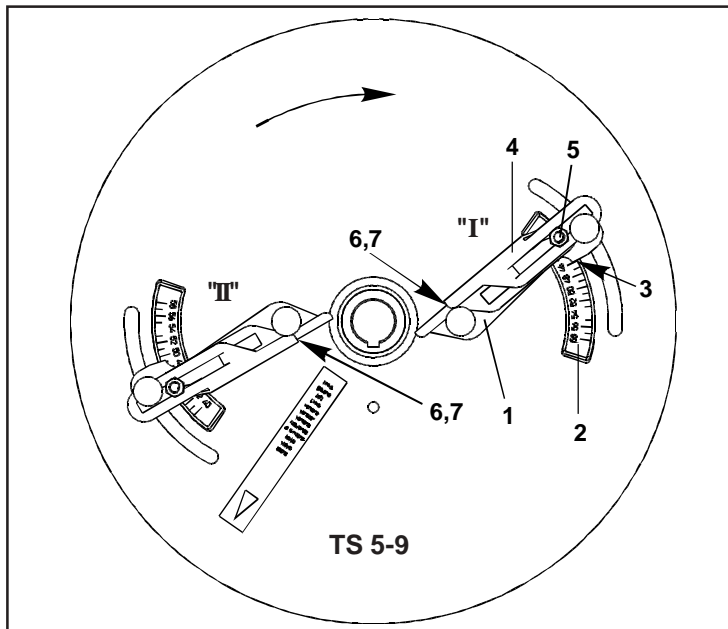

Fig. 7.23
- Set reading line (Fig. 7.23/7) of vane "I" to letter value "D" and fix outer vane part. Swivel vane "I" to figure "50" and fix.
- Set reading line (Fig. 7.23/7) of vane "II" to figure value "F" and fix outer vane part. Swivel vane "II" to figure "46" and fix.